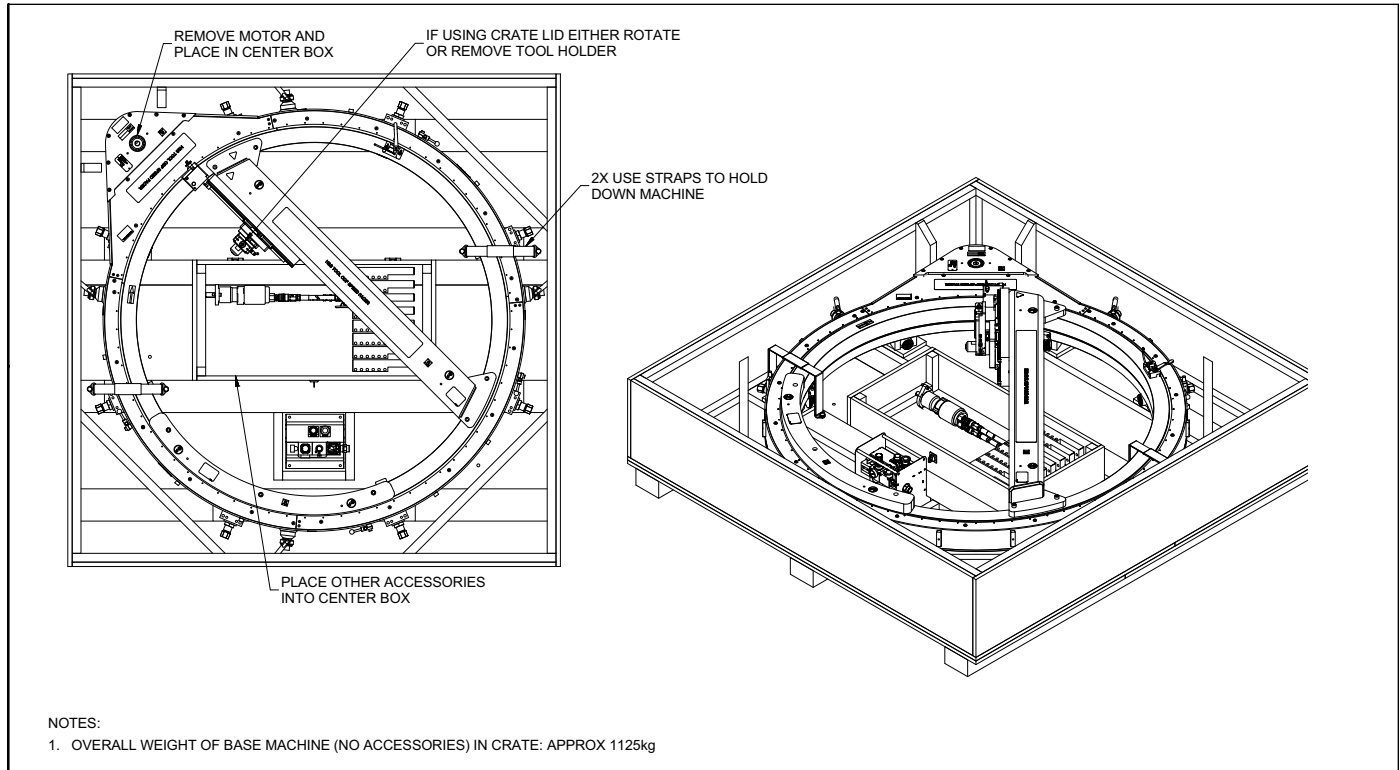

FIGURE 6-1. ODF60 CRATE
7. Store the ODF60 Speed Facer in its original shipping box (see Figure 6-1).
The ODF60 Speed Facer can be shipped in its original shipping container, as shown in Figure 6-1.